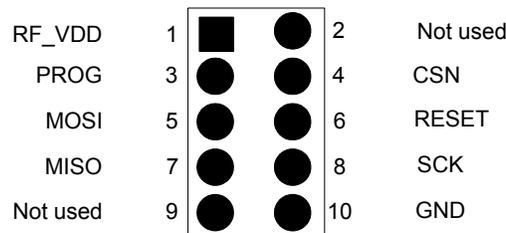

Figure 13. nRF ISP interface pin out
A nRF ISP interface (P16, ⑱ in Figure 2.) is available on the nRFgo Motherboard to enable in-circuit programming (ISP) of nRF devices. This interface enables ISP on your application boards. Figure 13. shows the pinout of the ISP connector. Please refer to nRF device product specifications for details on the program interface pinout on each nRF device.